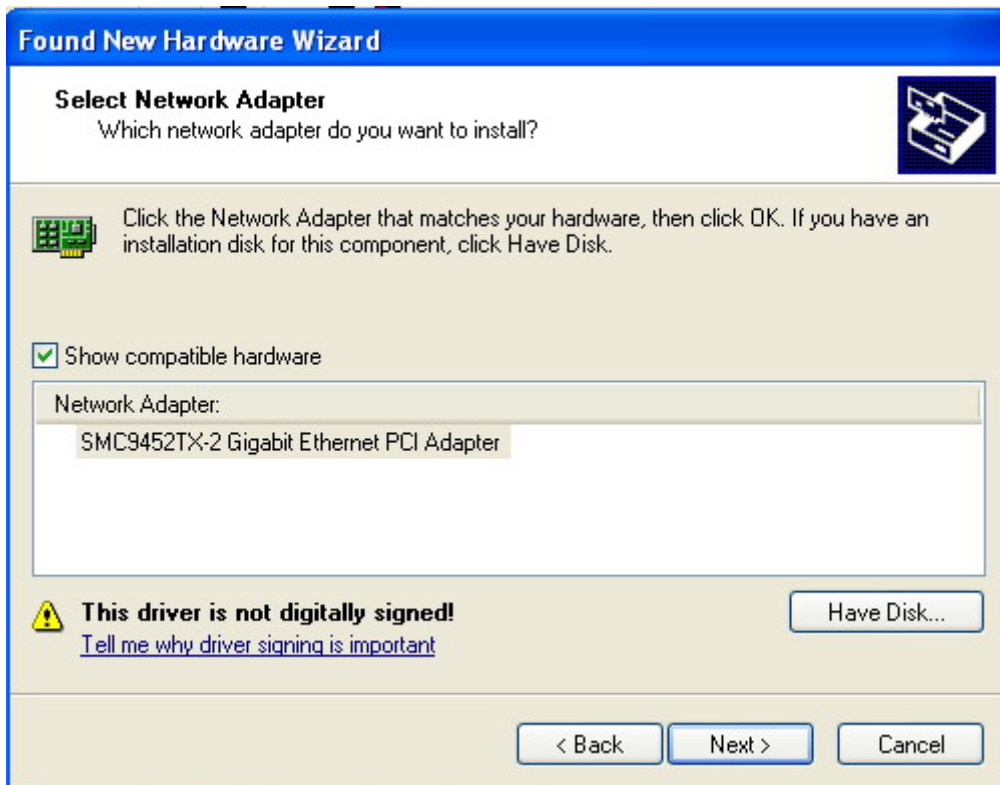

Figure 2-9
Step 8: After that, you will see the next screen (shown in Figure 2-9), click **OK**.